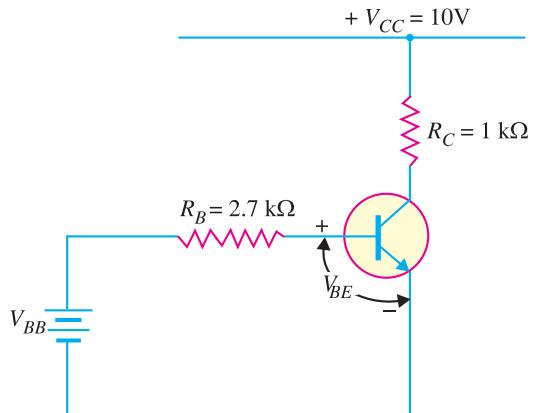

Fig. 18.9
**Example 18.3.** Fig. 18.9 shows the transistor switching circuit. Given that  $R_B = 2.7 k\Omega$ ,  $V_{BB} = 2V$ ,  $V_{BE} = 0.7V$  and  $V_{knee} = 0.7V$ .